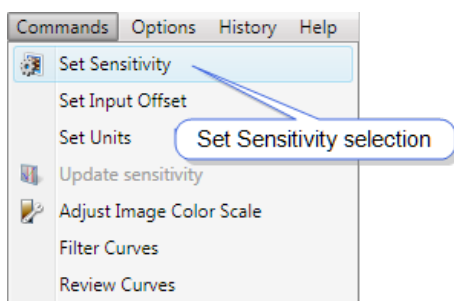

Figure 4.5a: The Set Sensitivity Menu
1. To **Set Sensitivity**, select **Commands > Set Sensitivity** from the **Menu** bar, shown in Figure 4.5a.